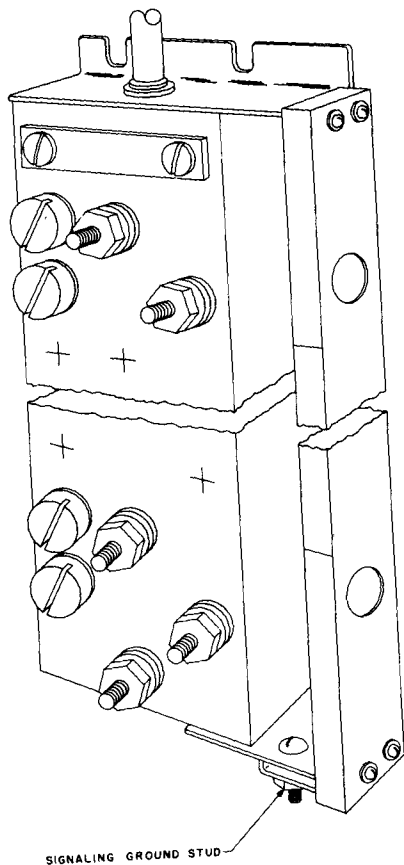
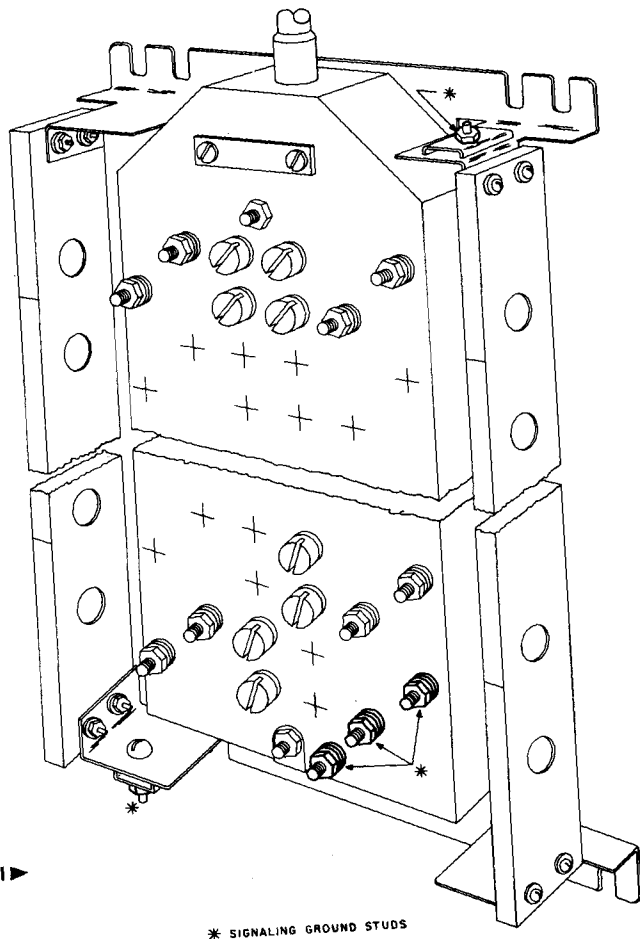

Fig. 15 - The 1A4A Terminal Block Showing Signaling Ground Stud
Fig. 16 - The 1A4A-51 Cable Terminal ►
9.02 Signaling grounds on 1A4A (10-, 16-, and 26-pair terminal blocks) may be obtained from ground screw on fanning strip bracket shown in the lower right-hand corner of Fig. 15. Three additional ground lugs are provided on 51-pair terminal block, see Fig. 16.